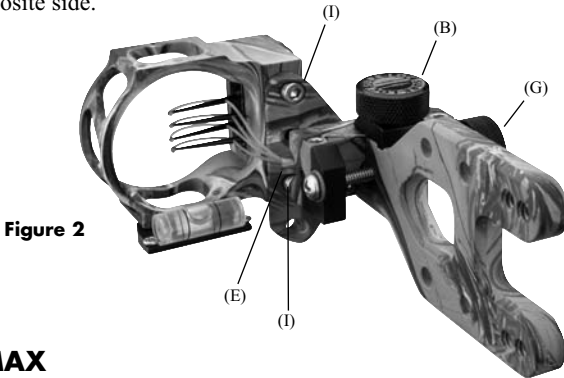

Figure 2
1. Install sight's direct mount to the bow with (2) #10-24 x 5/8" flathead allen screws provided. **(See Figure 2)**